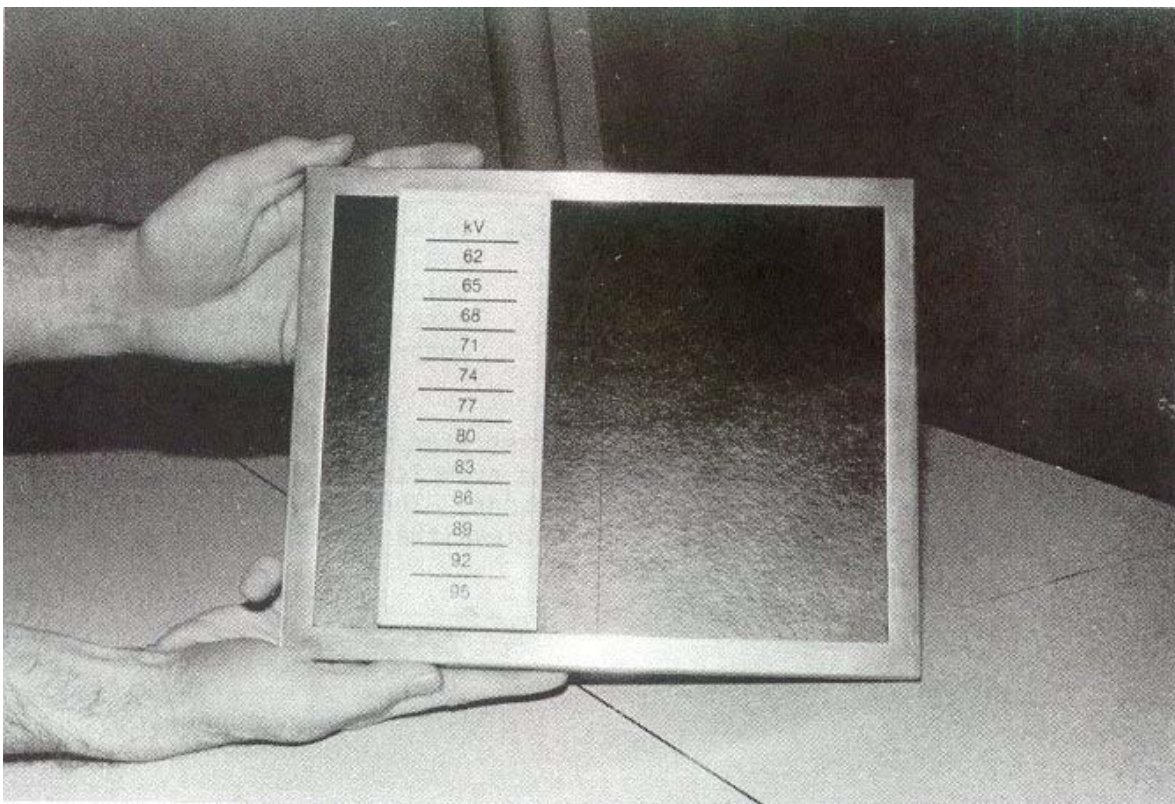

Figure 4-1. Old kVp test cassette.
- a. Wisconsin x-ray test cassette (see figure 4-1).